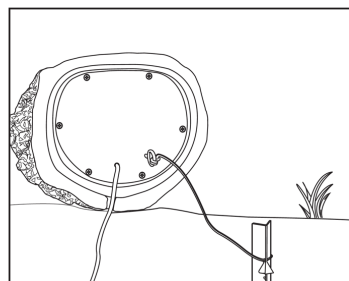

FIGURE 12
- Pick a spot in the ground which the loudspeaker will cover and drive the security stake all the way into the ground until the cable holder is completely under the surface of the ground, as shown in **Figure 12**.